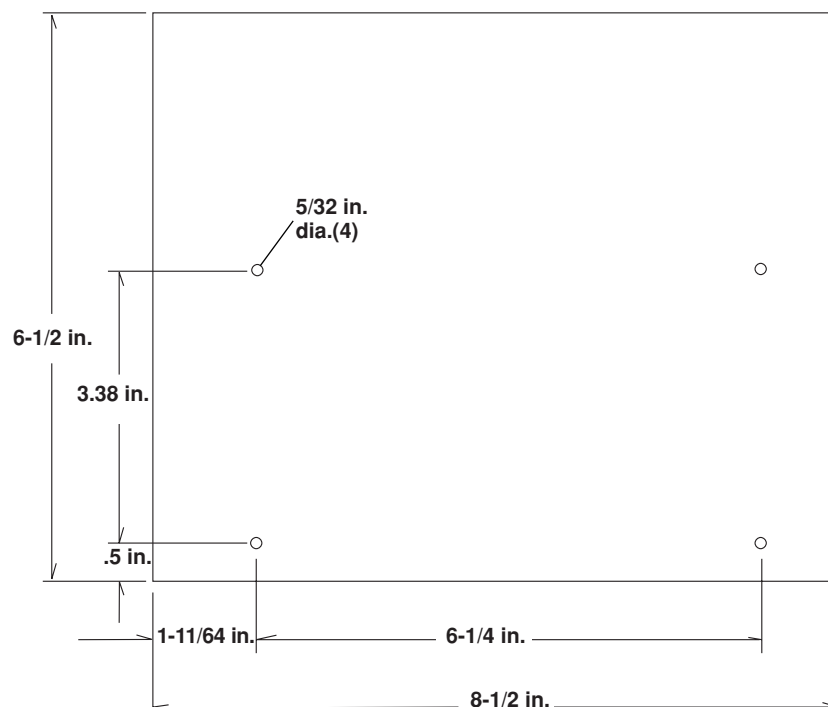

Figure c-1 RCC Mounting Dimensions
1. Mount the RCC for easy access. For fixed mounting of the RCC, refer to Figure c-1.